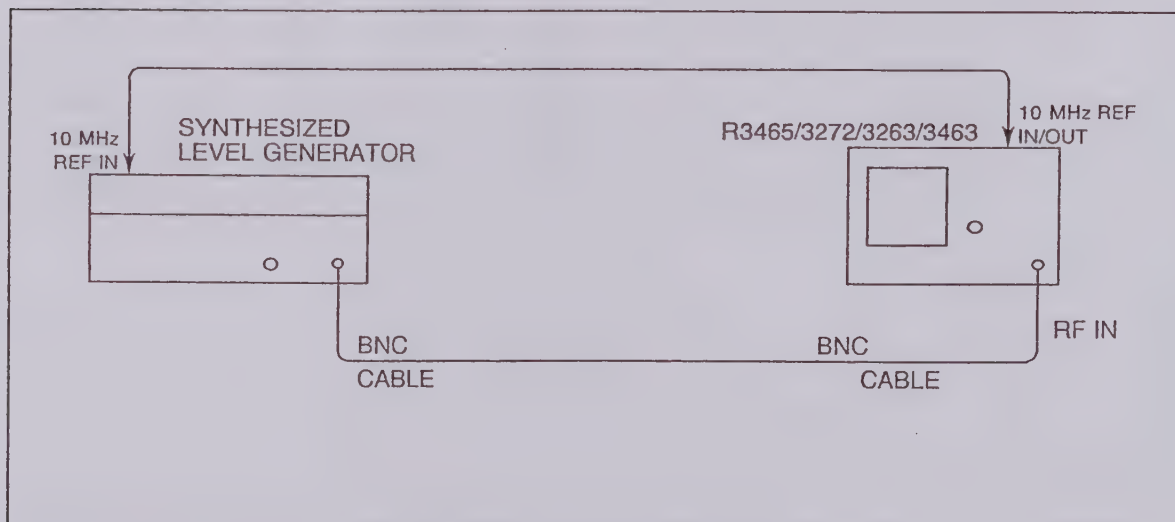

Figure 1-15 Scale Fidelity Test Setup
This test measures display accuracy for 1 dB, 10 dB log scales, X1 linear scales. All scales are measured with 0 dBm reference signal. Figure 1-15 illustrates the measurement system of this test. The Synthesized Level Generator is phase-locked to the 10 MHz reference source of the spectrum analyzer.
(1) Connect the equipment as shown in Figure 1-15.
(2) Set the SG4 controls as follows: